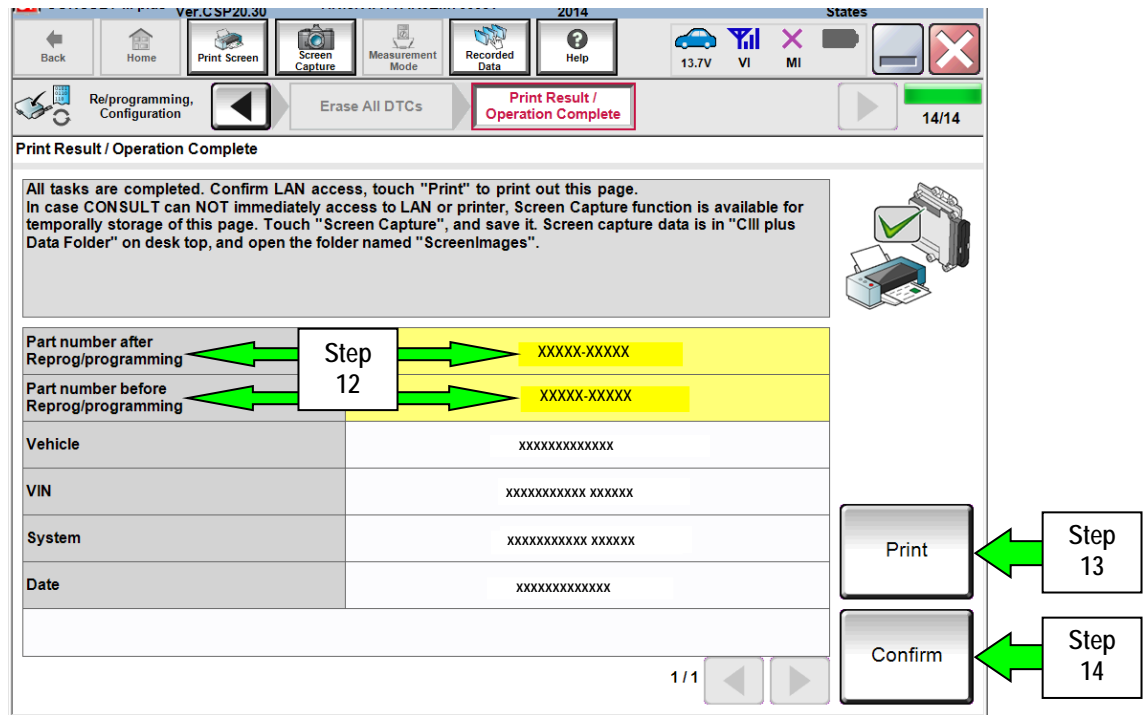

Figure 8
11. When the entire reprogramming process is complete, the screen in Figure 8 will display.
13. Print a copy of this screen (Figure 8) and attach it to the repair order for warranty documentation.